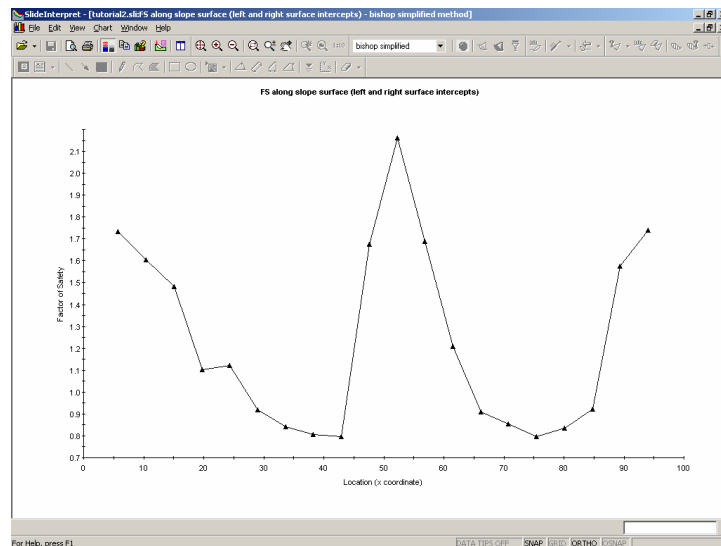

Figure 2-13: Factor of safety along slope surface.
A safety factor graph, such as Figure 2-13, can be used to help refine a critical surface search, with the Define Slope Limits option, as suggested in the optional exercise below.
2. Use the Define Slope Limits dialog (see the Quick Start tutorial), to define two sets of Slope Limits, corresponding approximately to the low safety factor areas of the graph in Figure 2-13.